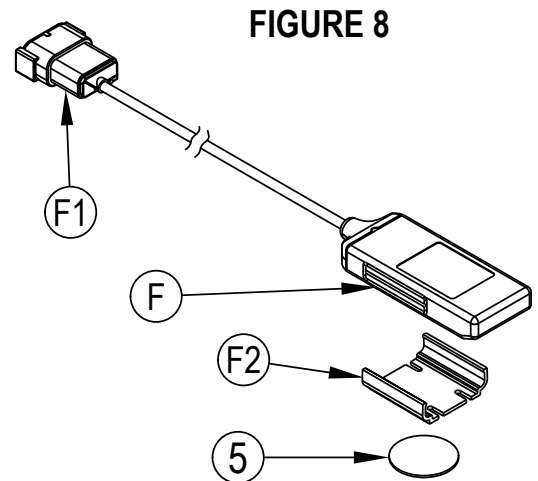
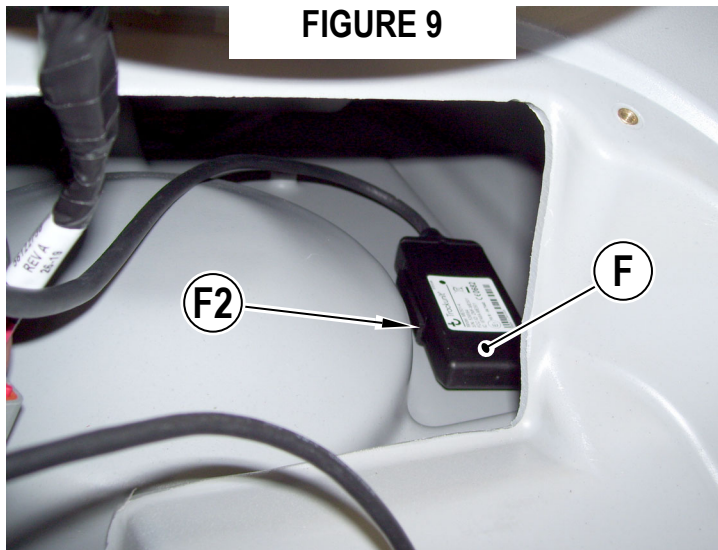

FIGURE 8
FIGURE 9
14. **SEE FIGURE 8.** Install Two-Sided Circular Tape (5) to the TrackClean Mounting Bracket (F2). Press firmly in place.
15. Remove the paper backing from the Circular Tape (5) on the TrackClean Module Mounting Bracket.
16. **SEE FIGURE 9.** With the TrackClean Module (F) in the Mounting Bracket (F2), stick the module and bracket in position (under control panel).
17. Immediately remove the TrackClean Module (F) from the Mounting Bracket (F2) and press down on the Mounting Bracket to engage adhesive on circular tape.